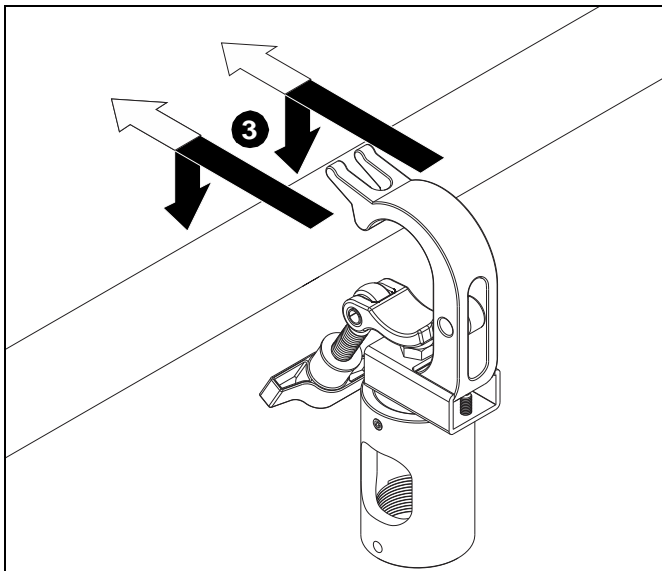

Figure 2
3. Wrap opened clamp around pipe or truss at desired mounting location. (See Figure 2)